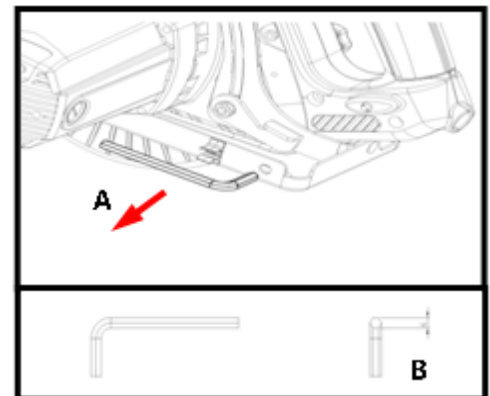

Fig.2
2. Remove included 6 mm Allen wrench (A). Fig.2